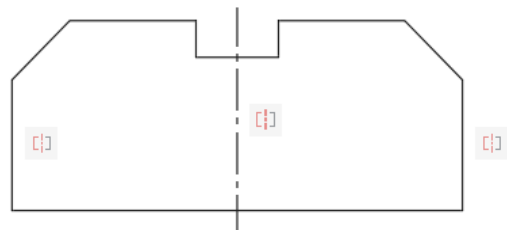

Figure 1-11 The Symmetric constraint symbol
12. Select the centerline as the symmetry line; the vertical lines become symmetric to the centerline and the symmetric symbol is displayed, as shown in Figure 1-11. Note that in this figure, other constraints are hidden for clarity.